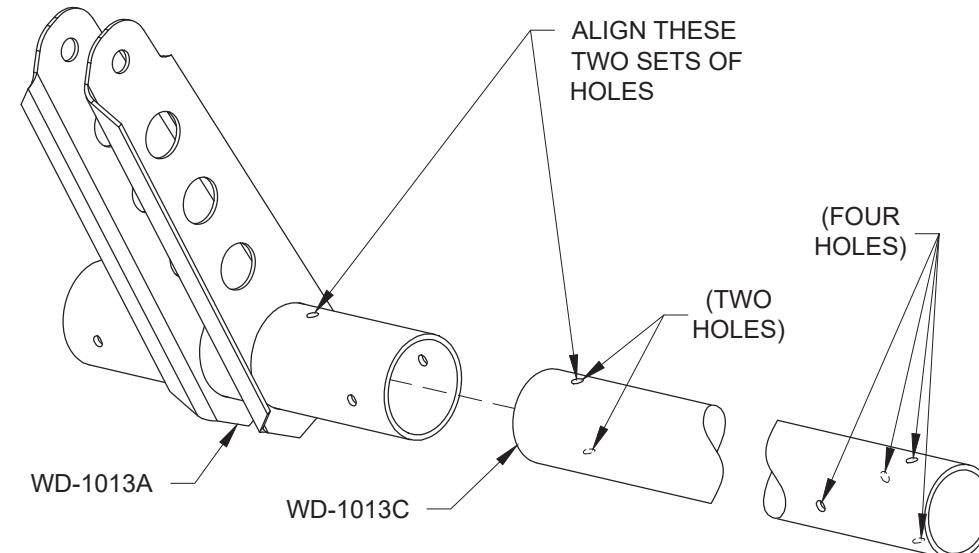

FIGURE 2: ASSEMBLE FLAP CRANK
Step 2: Slide a WD-1013C Flap Torque Tube into the WD-1013A Flap Crank and align them by using the pre-drilled holes as shown in Figure 2.